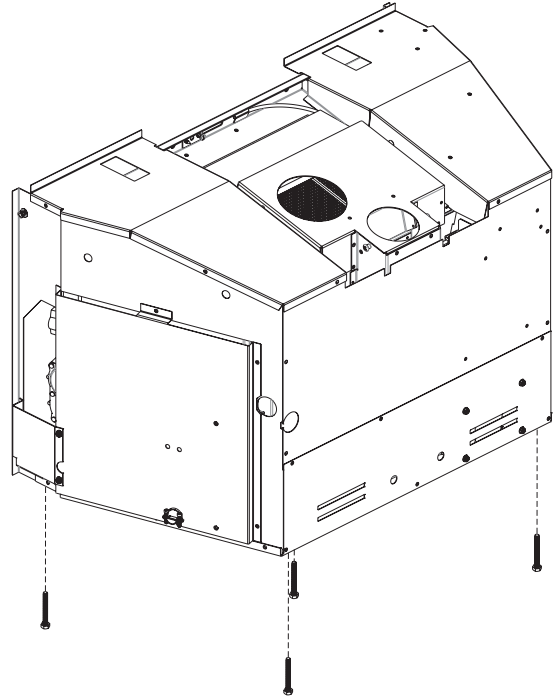

Figure 11
Figure 11 shows the vent termination cap and system approved for use with these models. Approved vent system terminations are labeled for identification. Use 3-inch diameter, flexible aluminum or stainless steel gas venting for the incoming combustion air. Use 4-inch diameter flexible aluminum or stainless steel gas venting for exhaust vent pipe. **No other venting systems or components may be used.** Detailed installation instructions are included with each vent termination kit and should be installed in conjunction with this manual.
**NOTICE:** The minimum vertical vent rise is 10 feet and the maximum vertical vent rise is 40 feet. These dimensions are measured from the starting collars of the unit to the end of the last section of vent pipe. **See Figure 11**, page 17.
7. Install leveling legs. See Figure 11.